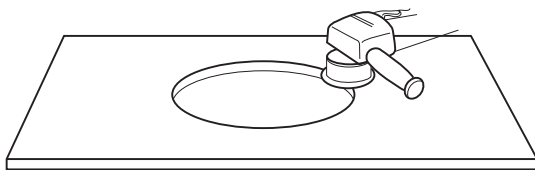

Figure C-6
- Use an orbital sander to smooth the cut-out if needed (Figure C-6).